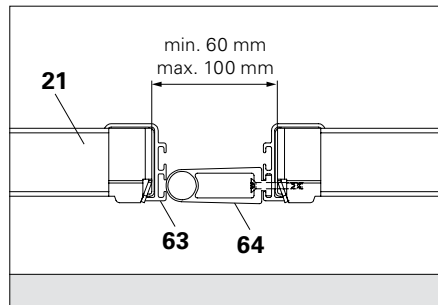

Fig. C2.12c
For larger spacings, install Draw-In Profile LPS 18/93 (64). (Fig. C2.12c)